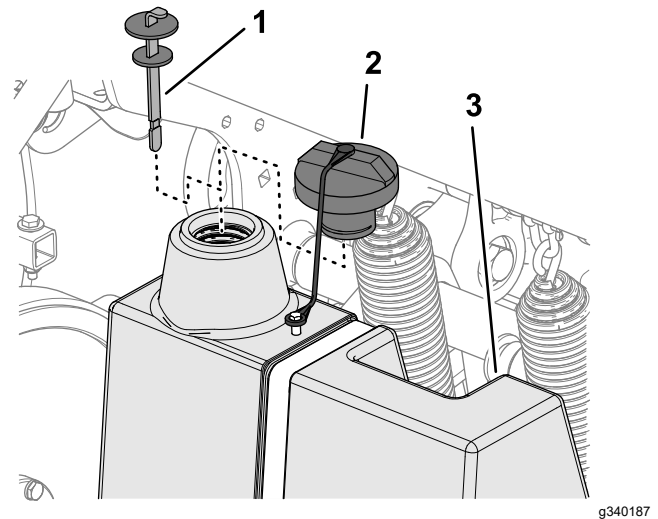

Figure 168
3. Clean the area around the filler neck and the cap of the hydraulic tank (Figure 168). Remove the cap from the filler neck.